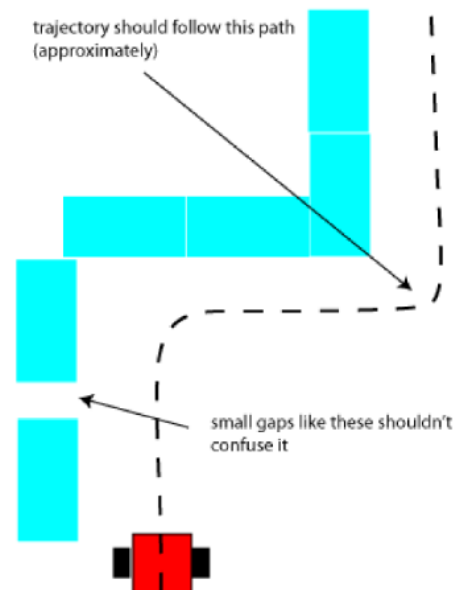

Figure 1. Course and robot placement.
- Place the **robot** at one corner of a sequence of blocks as shown in Figure 1.
A single **lap** is defined as a closed trajectory that the **robot** must follow and keep its distance from the **wall** before arriving in its starting location. In **Figure 1**, one whole lap would mean following the **wall** on the right side (the dotted line) and continuing around the end to follow it along the left side until reaching the starting point.
### **4. Should my **robot** follow the **wall** in an anti-clockwise direction (like Figure 1)?**
### **7. Will the **wall** setup look exactly like Figure 1?**